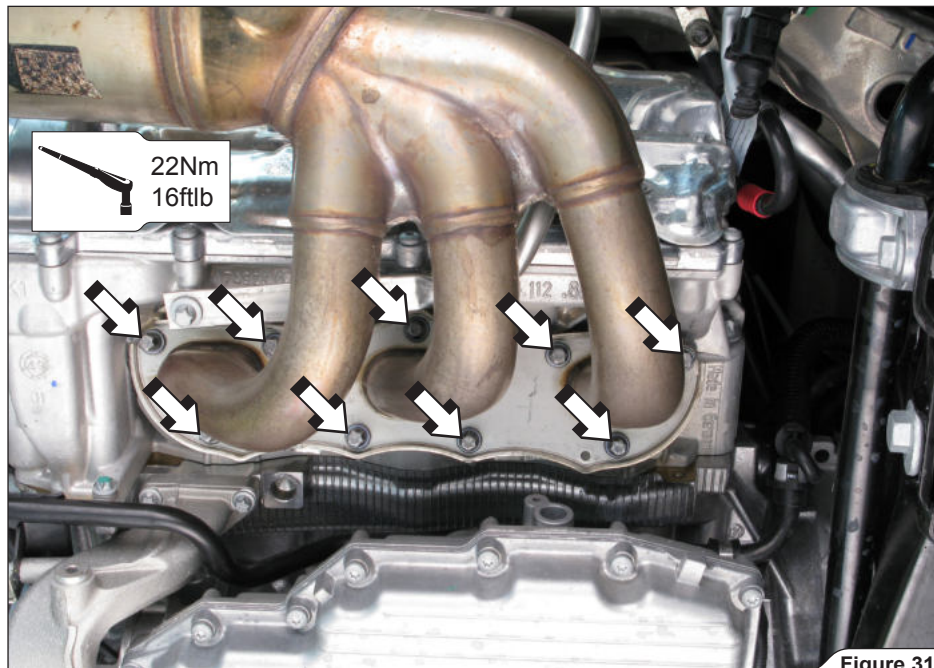

Figure 31
- Retighten the header tubes' flange bolts on both sides of the engine (**Figure 31**).